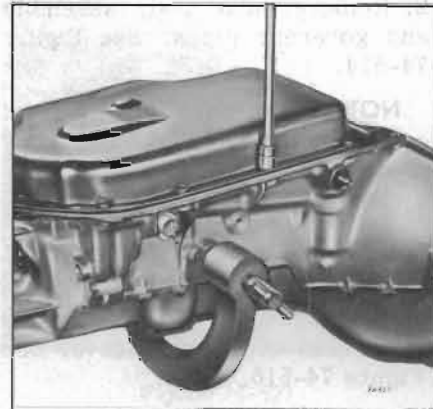

Figure 74-511
5. Remove oil pan attaching bolts. See Figure 74-511.